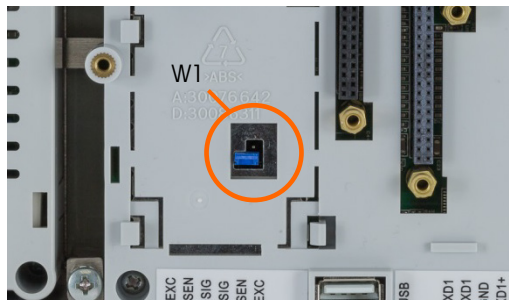
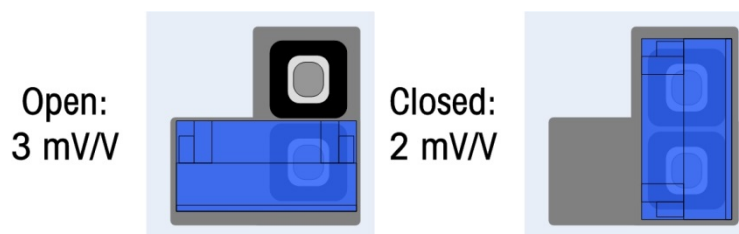

Figure 2-121: W1 Millivolt Jumper Location, Main PCB
Figure 2-122: W1 Millivolt Jumper Positions
The IDNet, SICSPRO and POWERCELL versions of the IND570 main board have no jumpers. There is one jumper on the IND570 analog scale main board (W1). This jumper selects either 2 mV/V or 3 mV/V operation of the analog circuitry. 3mV/V is the factory default position. Refer to Figure 2-121 for the jumper location and Figure 2-122 for its settings.
- When removing the W1 jumper for 3mV/V operation, reposition it on just one of the pins, as shown in Figure 2-121 and at left in Figure 2-122. If this jumper is not correctly positioned, the plastic cover over the Main board will not fit properly. If this occurs, do not force the plastic cover down. Remove the cover and position the jumper as shown.